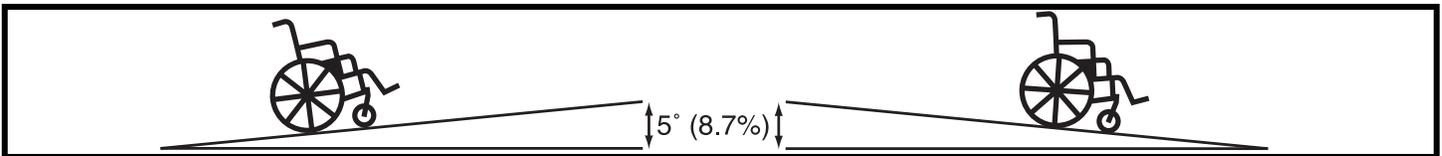

Figure 1. Maximum Safe Slope (Ascending and Descending)
**WARNING! Even though your wheelchair is capable of climbing slopes greater than those illustrated in figure 1, do not, under any circumstances, exceed the incline guidelines or any other specifications presented in this manual. Doing so could cause instability in your wheelchair.**
Pride recommends that the maximum slope of an incline you attempt to safely ascend or descend on your wheelchair does not exceed 5° (8.7%). See figure 1.